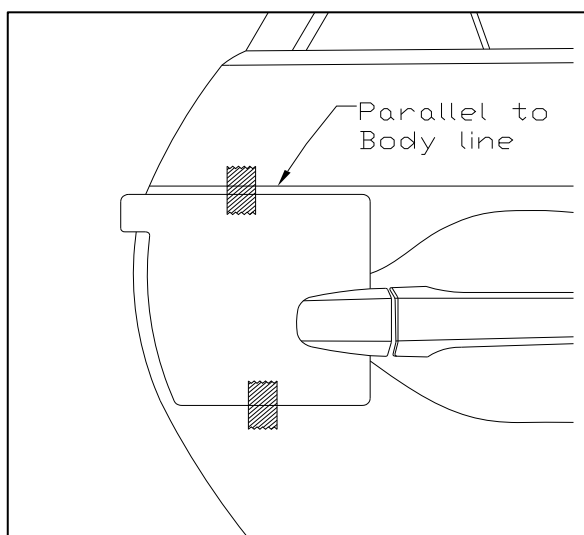

Fig. 1-2
- (c) Select rear door template and fit notch around door handle. Adjust as needed to ensure it is parallel to body line directly above the template. If needed, tape into place using painter’s masking tape. (Fig 1-2)